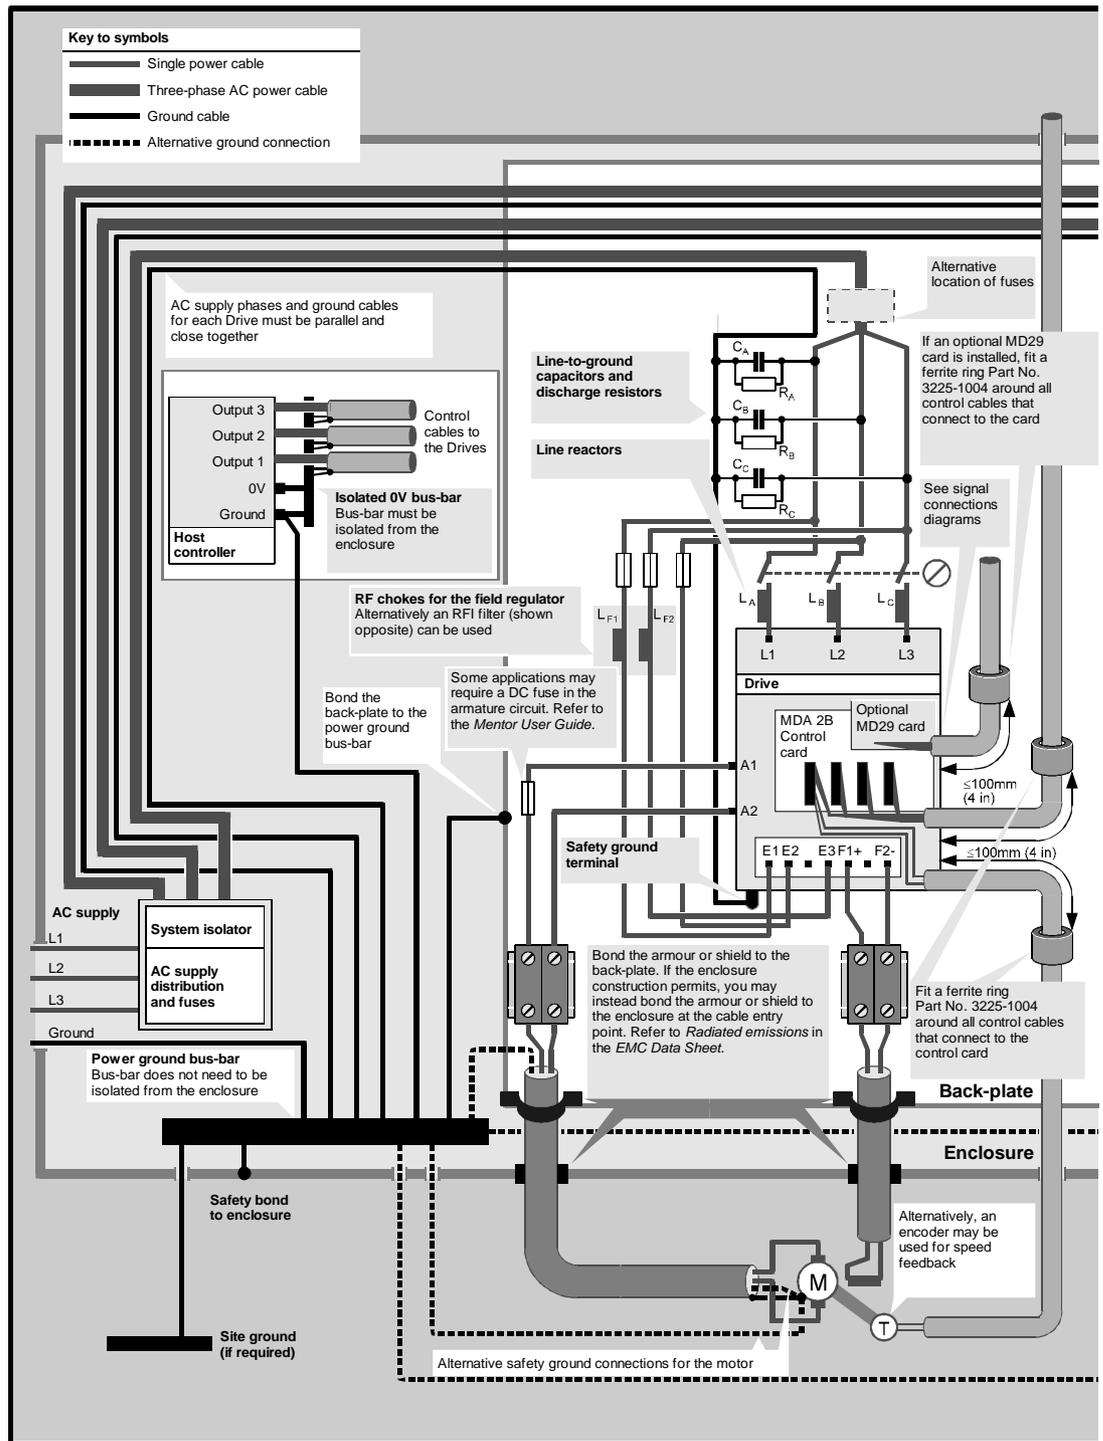

Figure 12-1 EMC installation guidelines for Mentor II Drive (field connections are shown for M25 to M210).
Figure 12-1 shows wiring guidelines to achieve minimum emission in a typical installation. When used with the recommended filter the Drive will meet the conducted emission limits required by the generic emission standard EN50081-2.
Two methods are shown in Figure 12-1 for suppressing the conducted emission into the power supply line for the main thyristor converter.
1) Using method 1 for the main circuit, if the capacitor network remains in circuit at all times when the field regulator is energised, then some low cost radio frequency chokes (L_{F1} and L_{F2}) can be used - refer to Figure 12-1
2) Using methods 1 or 2, if the field regulator is operated when the main suppression is not connected (not illustrated in Figure 12-1), then a separate RFI filter is required. The filter can be used as an alternative to RF chokes even if the main filter remains in circuit at all times.
When installed in a standard steel enclosure according to *EMC Installation Guidelines*, Figure 12-1 the Drive will meet the radiated emission limits required by the generic industrial emission standard EN50081-2.
For most installations, the Mentor Drive will be mounted in a protective metal enclosure which may have an internal back-plate for mounting VSD modules, RFI filters and ancillary equipment. There may be a requirement to shield the motor cable; if this is the case, electrically bond the shield to the back plate of the enclosure as shown in Figure 12-1. Alternatively, the shield may be bonded to the enclosure wall at the point of cable entry using the normal gland fixings.